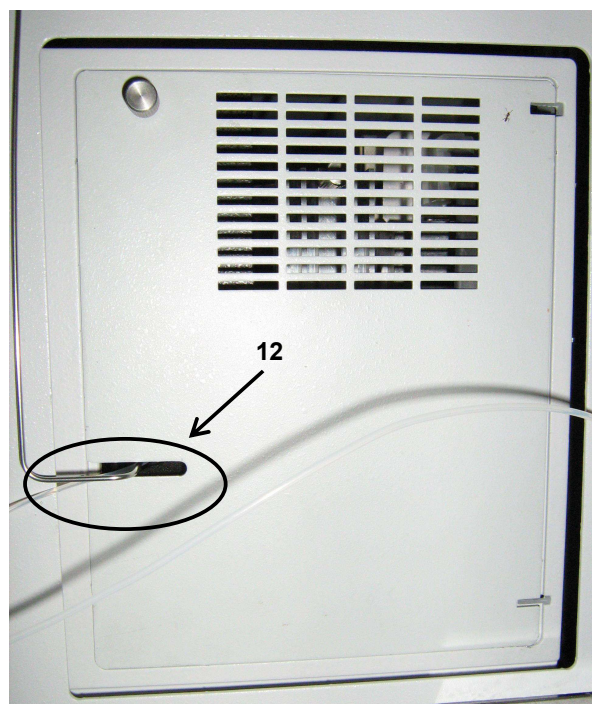

Figure 14: Threading the tubes through the slit in the Detector door
13. Once the line connected to the outlet port of the flow cell has been re-attached, carefully fit the door back on to the detector, ensuring that both the inlet line and the outlet line are threaded through the slit **(12)** in the door (*Figure 14*).